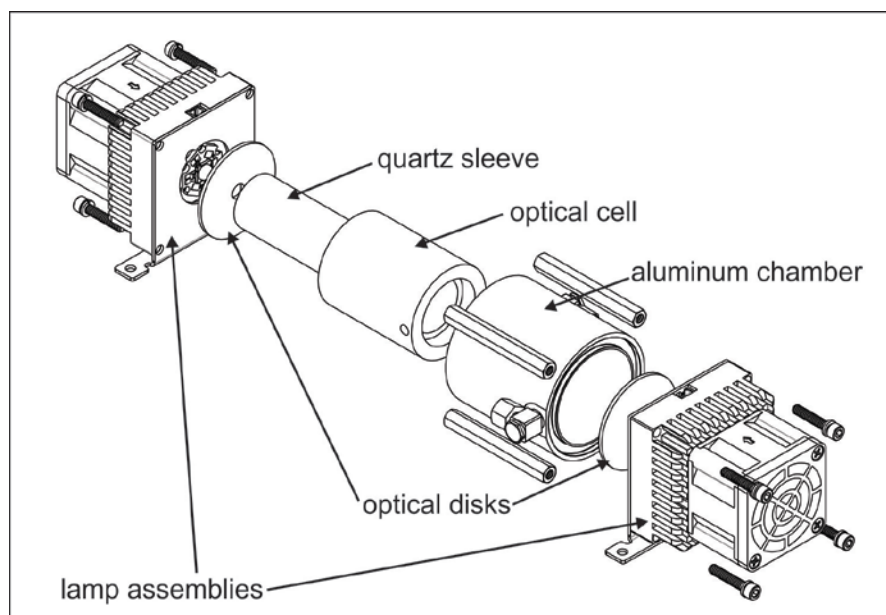

Figure 5-10. Photolytic Lamp Assembly Replacement
The NO₂ converter (Blue Light Converter) is located in the center of the instrument; see Figure 2-3 for the location, and Figure 5-10 for the assembly.
- a. Gently disconnect the electrical connectors (they are delicate) between the housing and each lamp assembly (Figure 5-10).